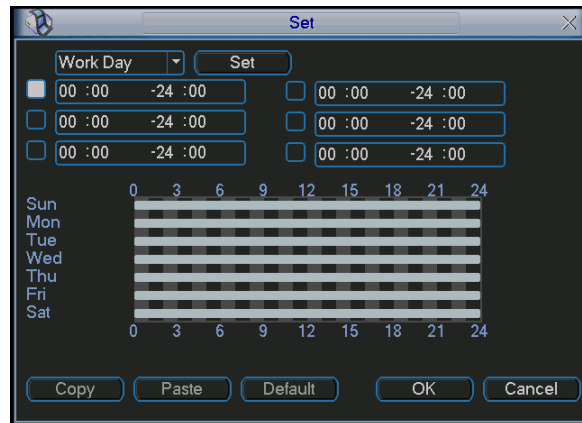

Figure 4-20
- Period: Click set button, you can see an interface is shown as in Figure 4-20. Here you can set for business day and non-business day. In Figure 4-20, click set button, you can see an